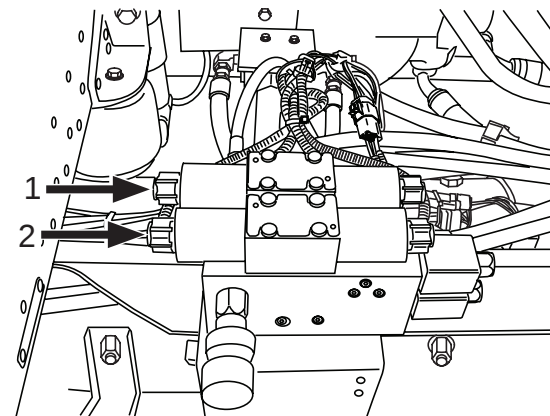

Figure 70
7. Manually shift the start/stop valve spool by pressing in on the end of the spool (Figure 70, Item 1).
8. Manually shift the raise/lower valve spool by pressing in on the end of the spool (Figure 70, Item 2).